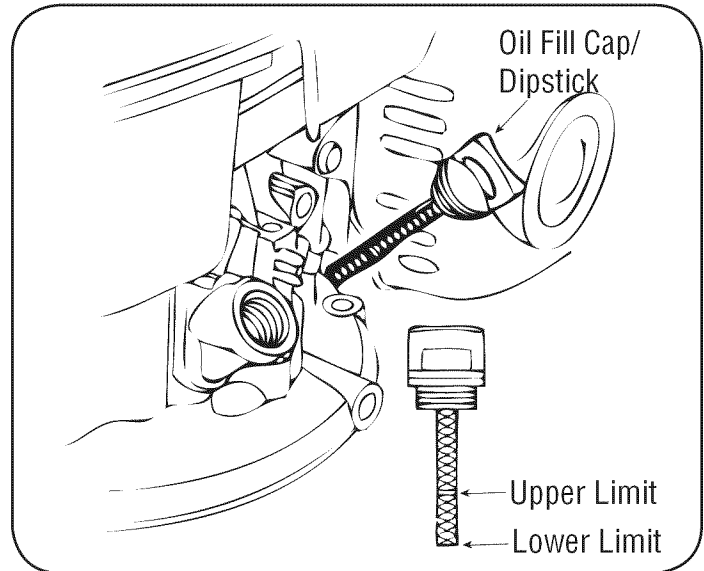

Figure 14
1. Remove oil fill dipstick. See Figure 14.
3. Insert and tighten the oil fill dipstick. Remove it to check the oil level. See Figure 14.